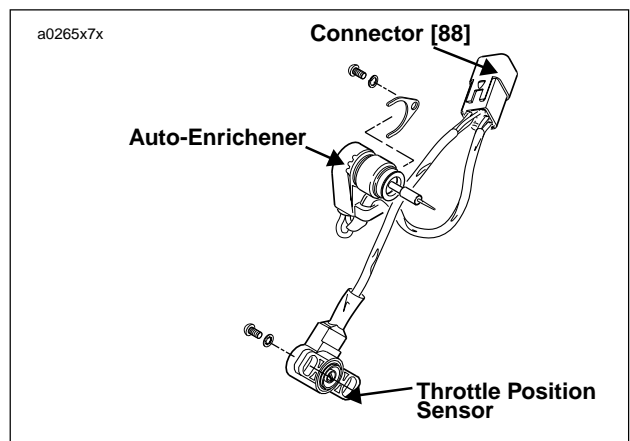

Figure 7-100. TP Sensor/Auto-Enrichener Connector [88]
16. See Figure 7-100. Mate TP Sensor/Auto-Enrichener connector [88] and secure with cable tie.